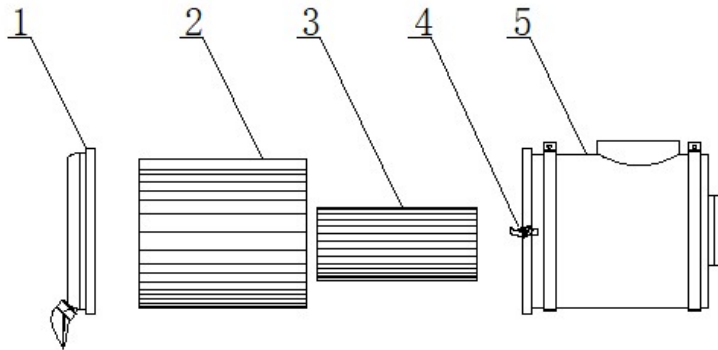

Figure 8.4.1-2 structural diagram of air filter
1. The dual element air filter consists of a primary element and a secondary element. If properly cleaned and inspected, the primary filter element can be cleaned up to six times. No matter how many times it has been cleaned, it must be replaced after one year. Figure 8.4.1-1 shows the location of the air filter and air filter maintenance indicator. Observe the maintenance indicator. If one of the following conditions occurs, the air filter element should be cleaned or replaced:
- 1.2. Any red is visible (Fig. 8.4.1-1).
- Figure 8.4.1-1 location of air filter and maintenance indicator
2. Loosen the butterfly fastener 4 of the air filter (as shown in Fig. 8.4.1-2) and take out the filter head 1;
10. Press the head of the indicator reset key (2 as shown in figure 8.4.1-1) to remove the blockage and complete the cleaning of the filter element.